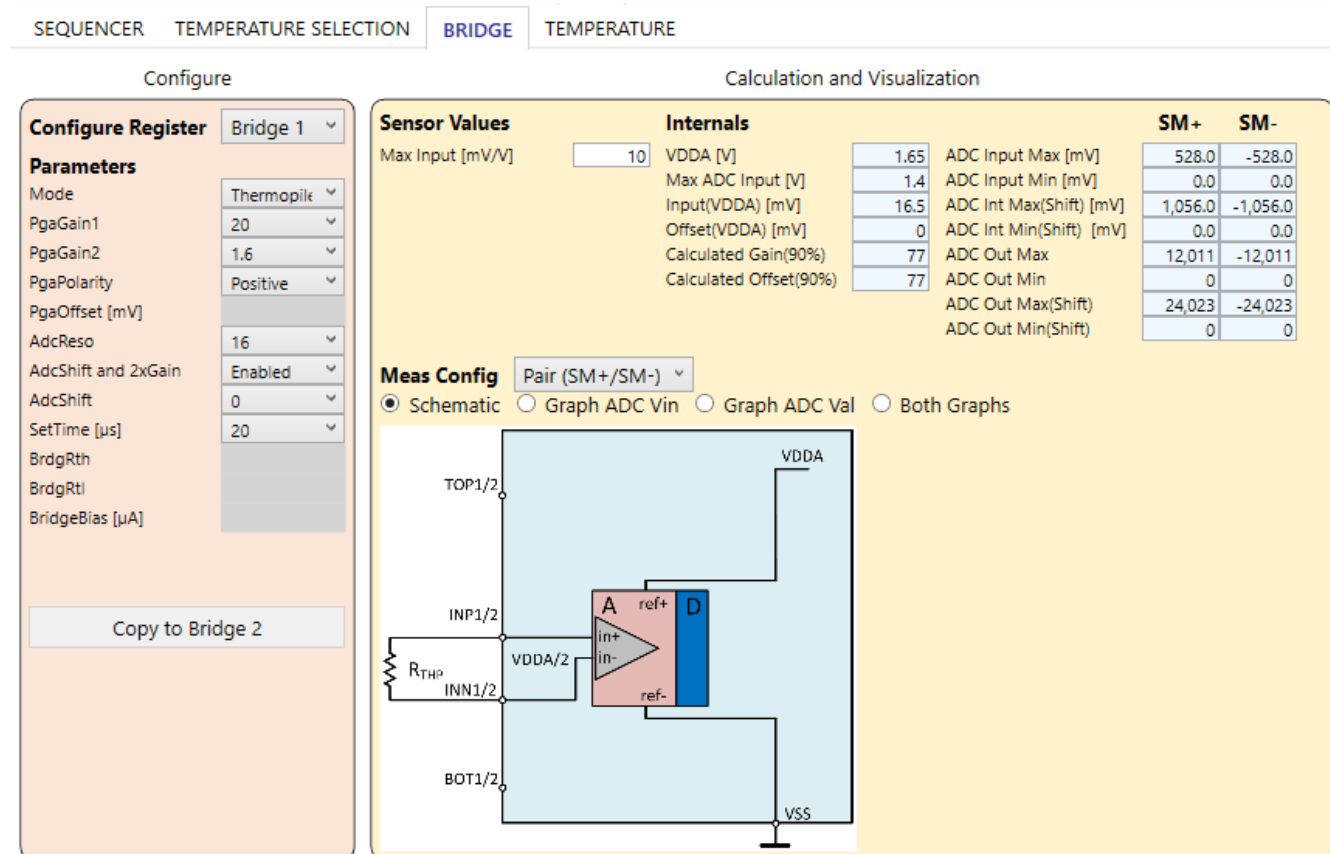

Figure 67. Thermopile Mode
- Thermopile: the device acquires the voltage signal generated by a thermopile, see Figure 67.